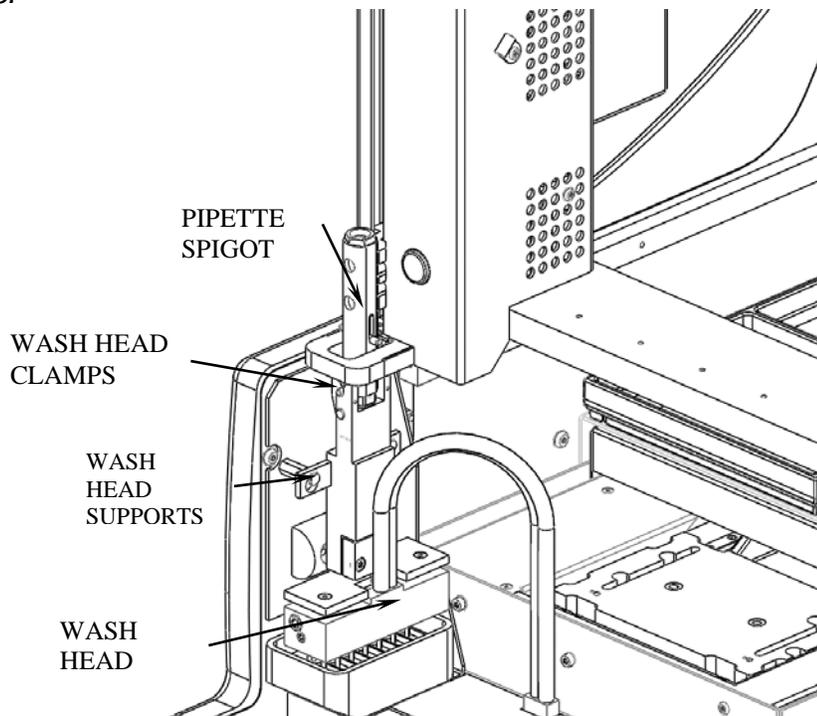

Figure 3
Manually move the Arm so that the Pipette Spigot is positioned above the Wash Head Assembly. Engage the Pipette Spigot into the Wash Head Assembly clamps. See Figure 3.
6. Re-locate the Wash Head Assembly onto the Wash Head Supports (see Figure 3), and disengage the Pipette Spigot. Remove the Alignment Plate from the Upper Plate Carrier.